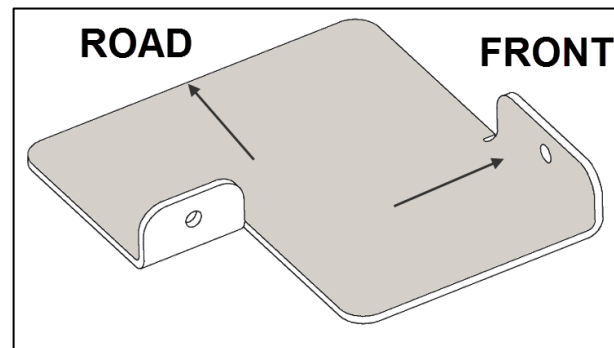

FIGURE 4
- Install the upper post support #270052. Refer to Figure 4 for bracket orientation.